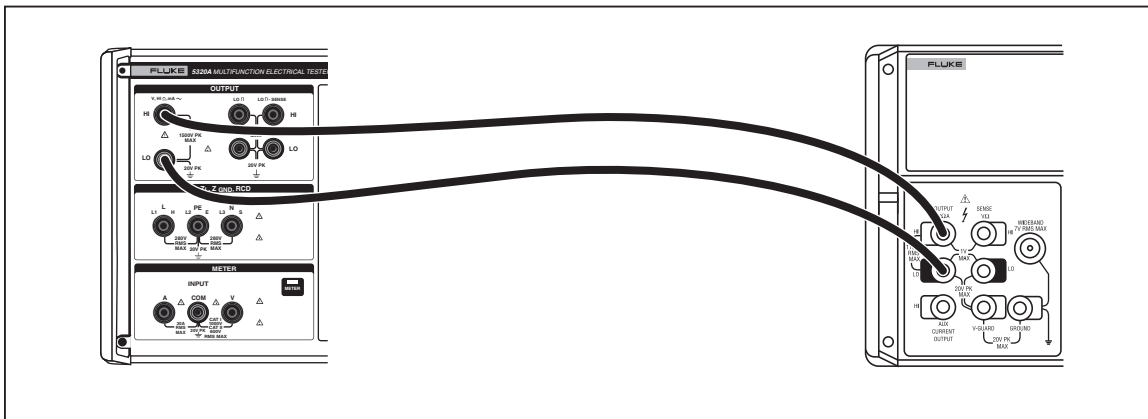

Figure 3-10. High Resistance Meter Calibration Connections
1. Connect the multifunction calibrator to the Calibrator's OUTPUT HIΩ HI and LO terminals as shown in Figure 3-10.